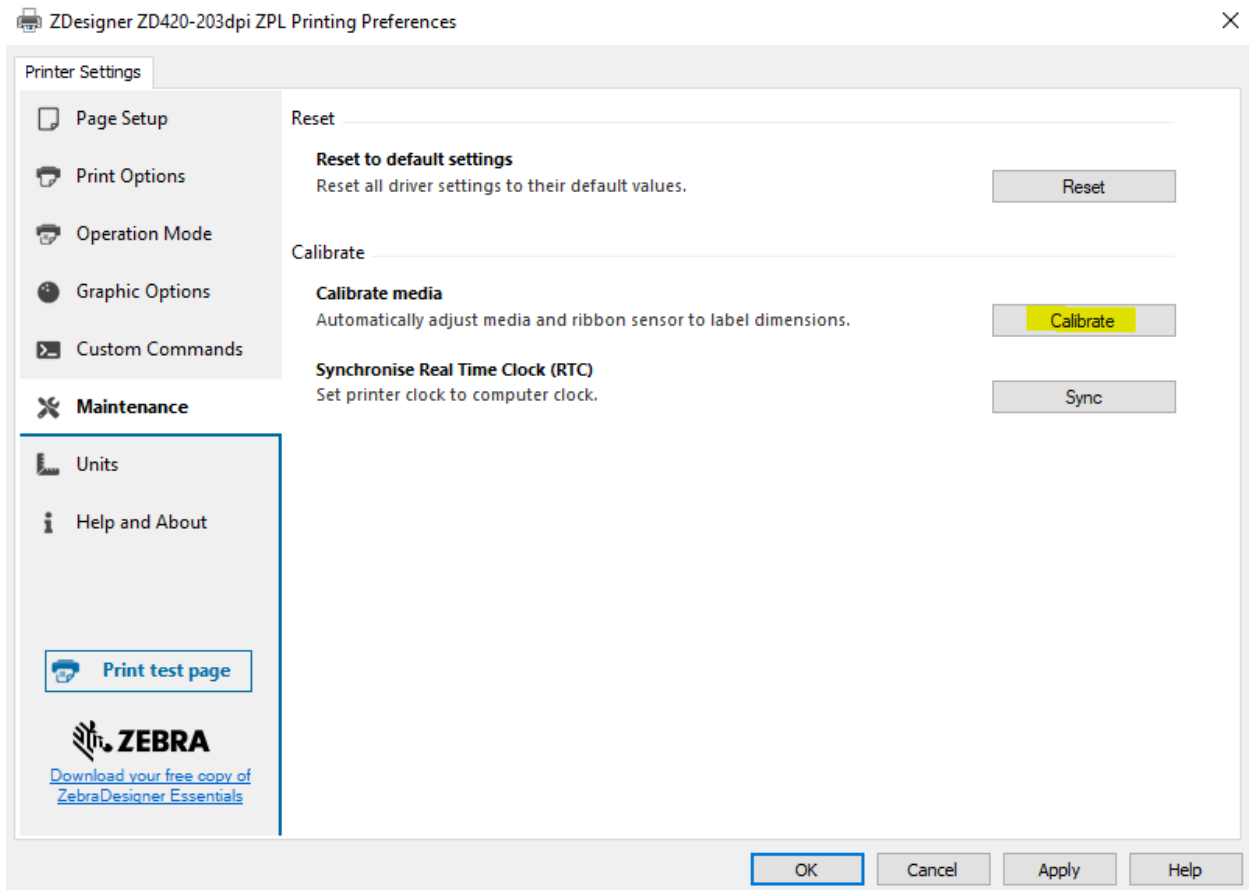

Figure 13: Calibrating the medium
- Figure 13: Calibrating the medium8
If, when printing, there is a shift in the contents of the label, we advise to carry out medium calibration via printer drivers. In this procedure, the printer automatically adjusts the medium and the sensor to the label's dimensions. You can start the process by clicking the button *Calibrate* in the **Maintenance** tab (see Figure 13).